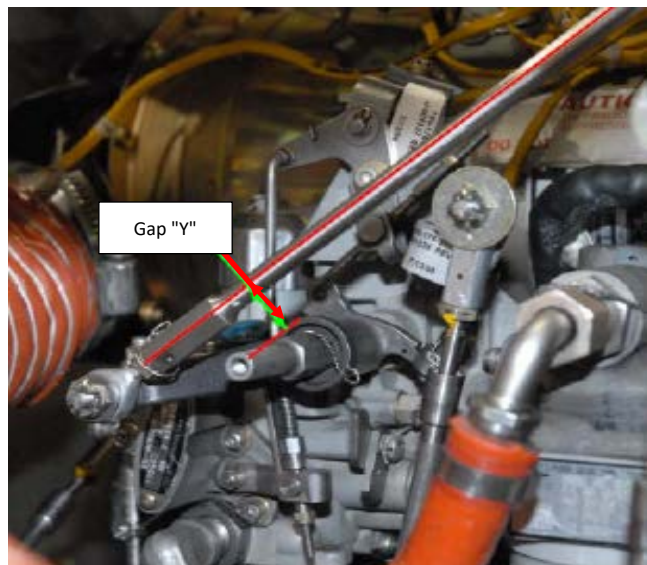

Figure 76-38 - Adjust FCU Arm Position to Set Gap "Y" Between 3/8 and 1/2 Inch
- G. The next objective is to adjust the position of the FCU arm in order to set Gap "Y" in Figure 76-38 to approximately 3/8 to 1/2 inch, when the FCU arm is at the pick-up point. The arm is equipped with serrations to allow an adjustment of the arm position relative to the pick-up point.